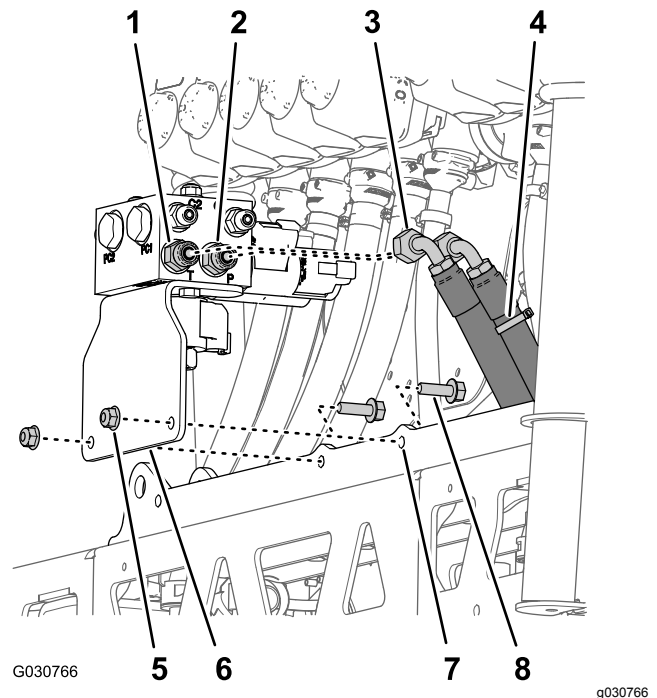

Figure 127
1. Align the holes in the support bracket for the boom-lift manifold that you removed in step 3 of Removing the Lift Cylinder Manifold and Support Bracket \(page 36\) with the cylinder mount of the new center boom section (Figure 127).
2. Assemble the support bracket to the cylinder mount (Figure 127) with the 2 flange-head bolts (5/16 x 1 inch) and flange locknuts (5/16 inch) that you removed in step 3 of Removing the Lift Cylinder Manifold and Support Bracket \(page 36\).
- Assemble the hydraulic-pressure hose (marked with a cable tie) onto port P of the boom-lift manifold (Figure 127).
- Assemble the hydraulic-return hose onto port T of the boom-lift manifold (Figure 127).